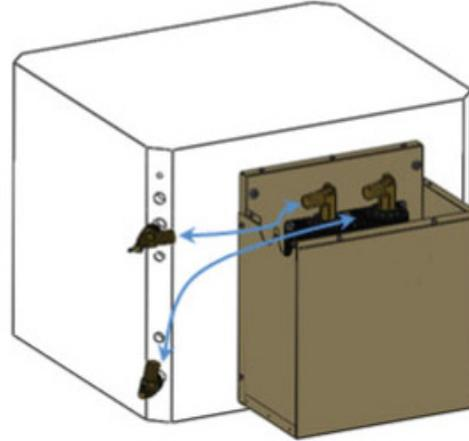

Fig. 14 — Routing of Rubber Hoses
- e. "Aim" the fittings toward the cut-outs in the lower panel. The right side connection on the flow center connects to the lower fitting (water in) on the GHP. The left side connection on the flow center connects to the upper fitting (water out) on the GHP. (Fig. 14)